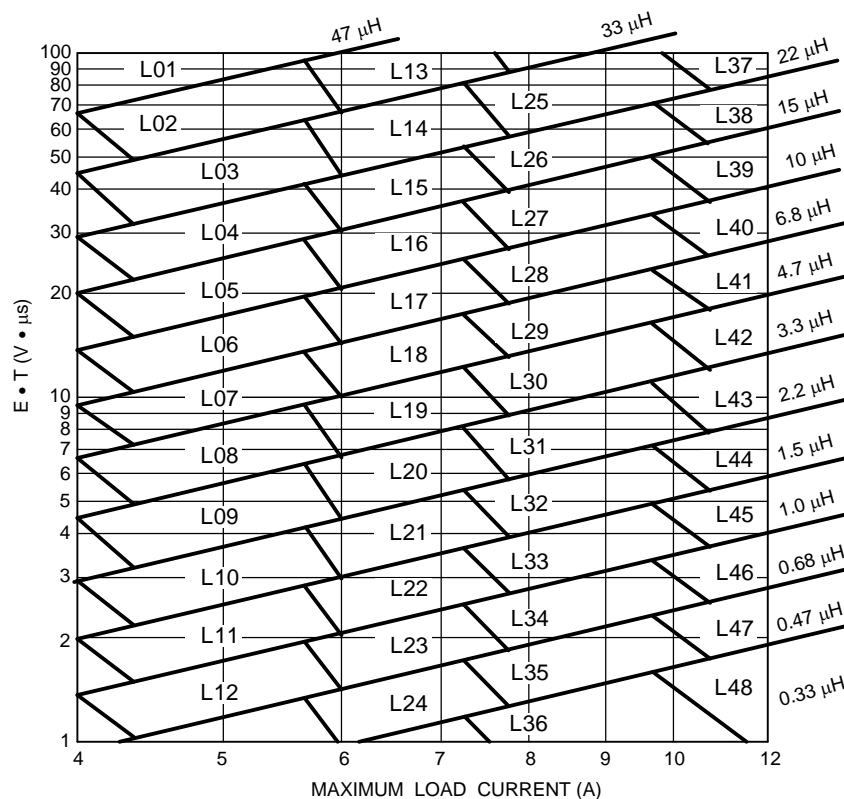

Figure 13. Inductor Nomograph
3. Determine Inductor Required Using Figure 13